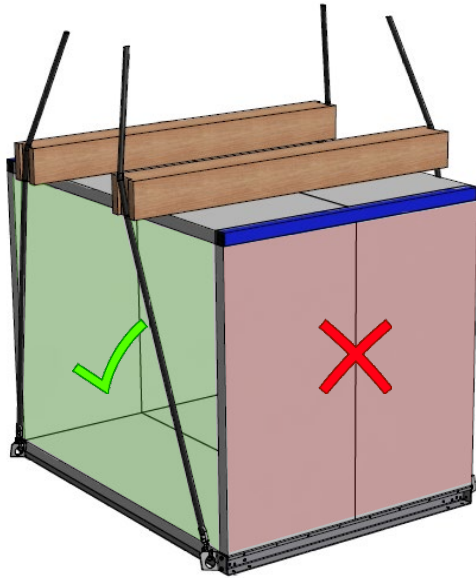

Figure 18: Load carrying equipment guided over front side
- The load carrying equipment must not run over the operating side of the AHU, but it must run over the opening or the front side of the AHU (**Figure 18**).